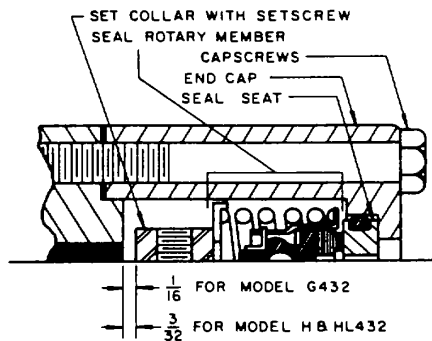

FIGURE 14
- Install the mechanical seal: Place the setcollar on the shaft and tighten setscrew. See figure 14 for setcollar location.
NOTE: Never touch the sealing faces with anything except the fingers or a clean cloth. Spread a film of lubricating oil on the inside diameter of the synthetic rubber bellows. Check the end of the pump shaft for sharp burrs or edges which might cut the bellows. Slide the seal rotary member over the shaft and up against the setcollar. The spring washer and spring must be put on the shaft first and in that order. (See Figure 14). Coat the synthetic rubber seal seat with lubricating oil and push the seal seat into the end cap. Put the end cap gasket on the end of the casing. Slide end cap over the shaft and flush both the seal seat and carbon wear ring in the seal rotary member with oil. Push the end cap up until the mating surfaces or the seal meet. Install the capscrews and tighten evenly.